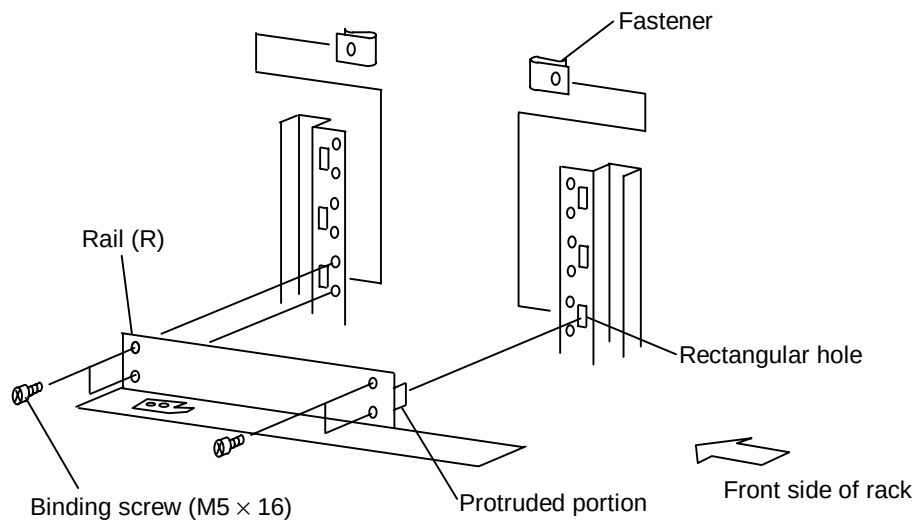

Figure 2.4.2 Securing the Rail to the Rack Frame
- (2) Insert the protruded portions of the Rail (R) into the rectangular holes on both the front and rear sides of the rack frame at right hand side of the desired installing position. (See Figure 2.4.2.)
- (3) Install the fasteners aligning their holes with the holes of the rail and the rack frame (at two places each on the front and rear sides). (See Figure 2.4.2.)
- (4) Secure the Rail (R) using the Binding screws (M5 × 16) (at two places each on the front and rear sides).
- (5) Temporarily attach the Stopper (L) to the Rail (L), and secure the Rail (L) to the rack frame in the same way.